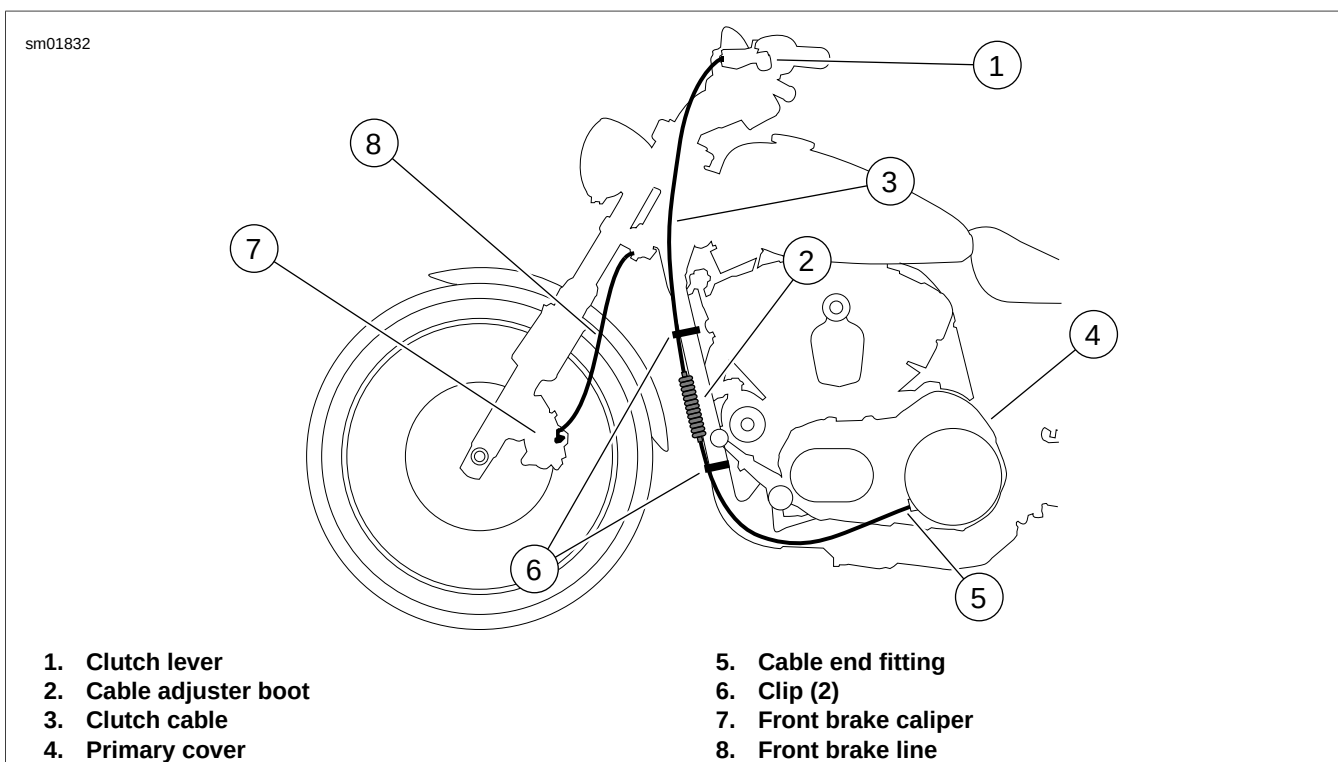

Figure 2-223. Clutch Cable and Front Brake Line Routings - Left Side
1. See Figure 2-223. If not yet done, route clutch cable (3) forward from clutch lever (1), downward to outboard side of left front fork slider tube, through two clips (6) on left front frame downtube, and then rearward to primary cover (4).